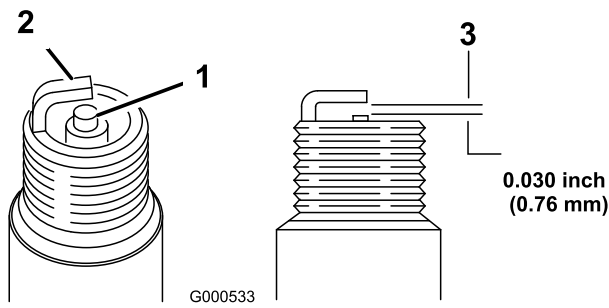

Figure 23
5. Set the gap on the plug to 0.76 mm (0.030 inch) (Figure 23).